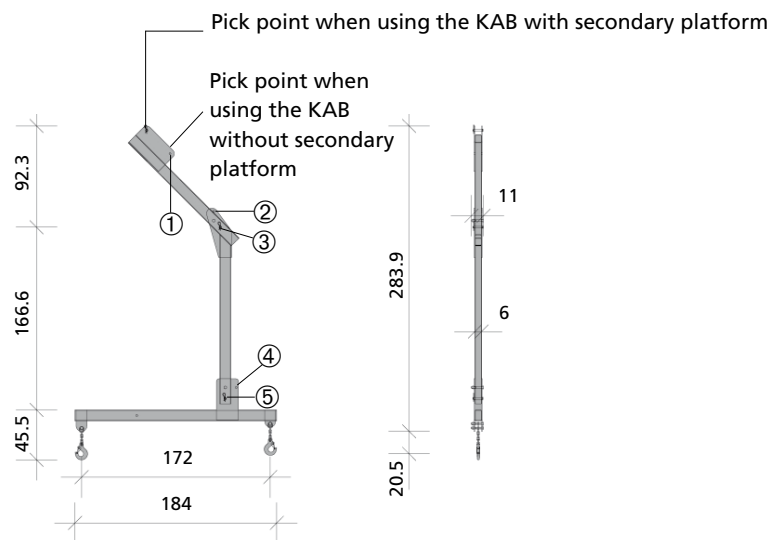

Fig. 16.2
On the construction site, remove the head bolts and cotter pins, unfold the transport spreader and place a head bolt 16/90 and a cotter pin 4 at positions ③ and ⑤ to secure the transport spreader (Fig. 16.2).